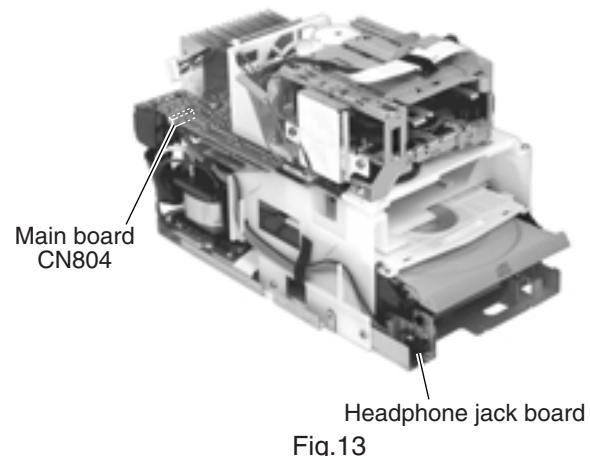

Fig.13
■ Removing the headphone jack board (See Fig.13 and 14)